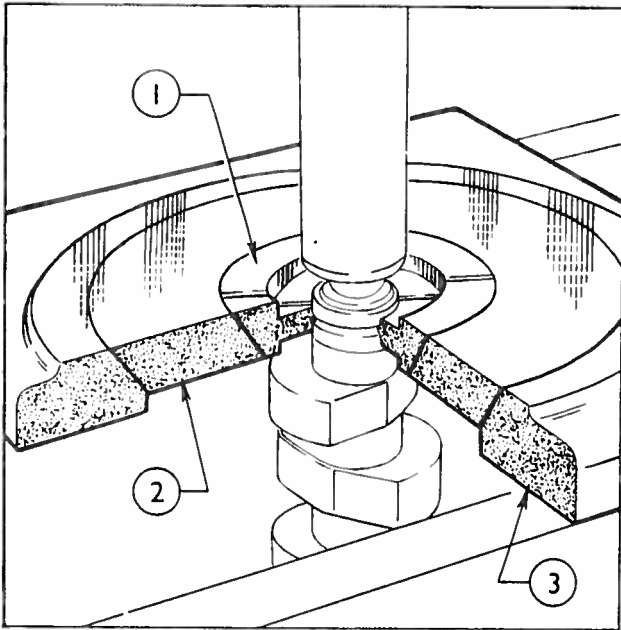

Fig. 16 Removing the camshaft bearing inner race
16. Remove the camshaft bearing inner race using a suitable press, universal taper plate Tool No. 370, slave ring Tool No. CT9056 and adaptor Tool No. CT6085-1A, see Fig. 16.